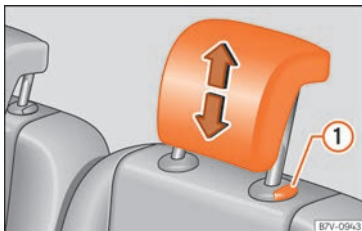

Fig. 134 Fitting the headrests in the second or third row of seats
- Remove the headrest completely while pressing button » » » Fig. 134 ①.